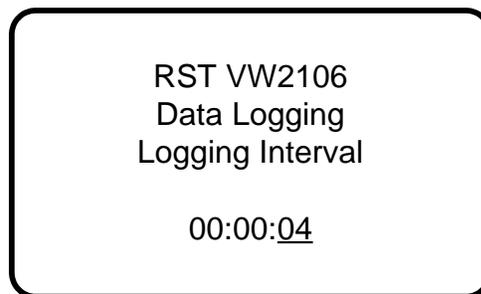

FIGURE 5-5 DATA LOGGING INTERVAL
4. Use the up/down arrows to set the reading interval and press **Enter**. For example, if 4 is selected, the data will log every 4 seconds (Figure 5-5).